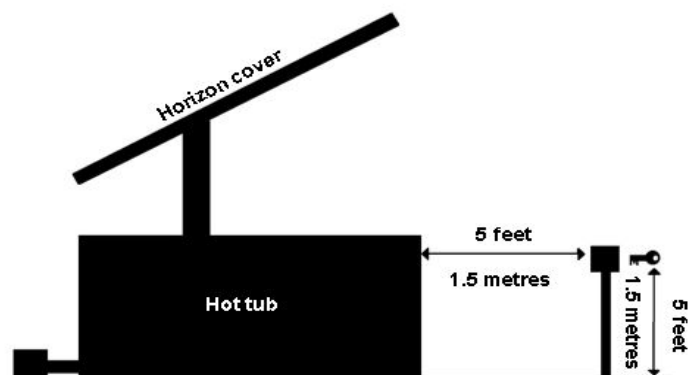

Figure 1
- ♦ The key switch must be permanently mounted and located 5 ft. (1.5 m) away from the hot tub and 5 ft. (1.5 m) above the deck or ground level. Ensure the user has a clear view of the COVANA cover when operating it. Furthermore, the key switch terminal should be located in a place where no water downpour or debris could fall on it. (Figure 1)